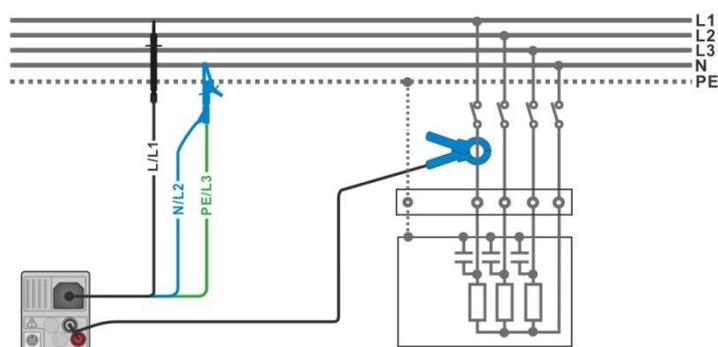

Figure 7.70: Power measurement
- › Connect the voltage test leads and current clamp to the item to be tested (see **Figure 7.70**).